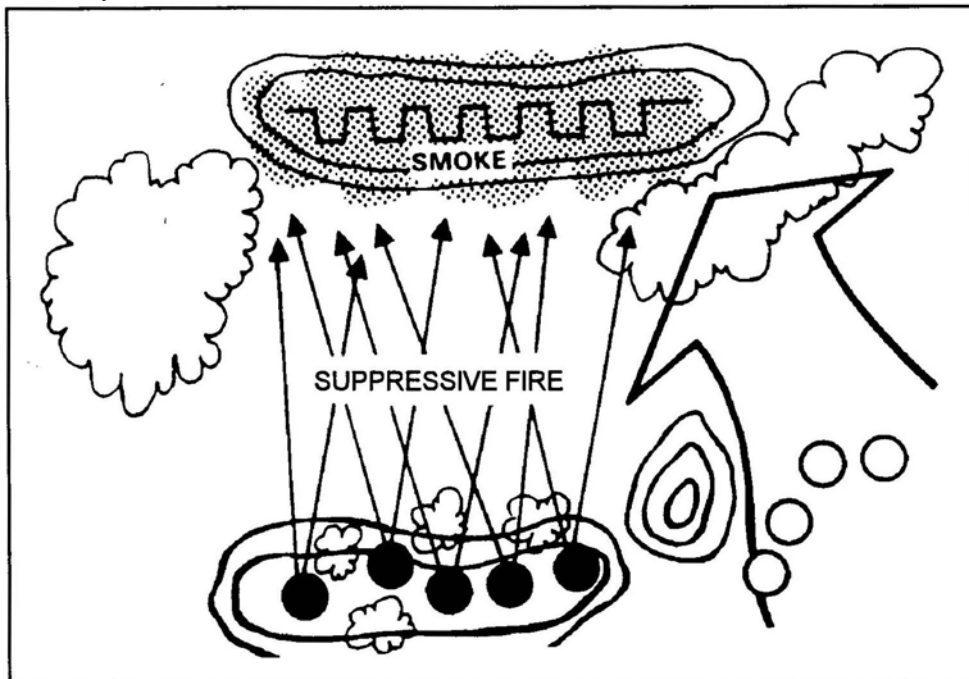

Figure 3. Fix the enemy.
4. Fix the enemy. To close with the enemy, the assaulting force must suppress the enemy's fire (Figure 3). This is done by blocking the enemy's vision by smoke, or by shooting at him with enough accuracy and volume of fire to drive him from his firing positions. Once the enemy is suppressed, the assaulting force can maneuver toward his positions without a lot of casualties. The assaulting force always tries to concentrate against the enemy flank, rear, or other weak points. The enemy is normally aware of weak points and will reinforce them when he realizes that they will be assaulted. Suppressive fire will fix the enemy so he cannot reinforce these weak points. However, smoke and direct fire will not keep him from redeploying along interconnecting trenches. To stop this from happening, the use of airburst indirect fires is required. Each situation will be different. Remember that the enemy must be **FIXED BY SUPPRESSIVE FIRE**.